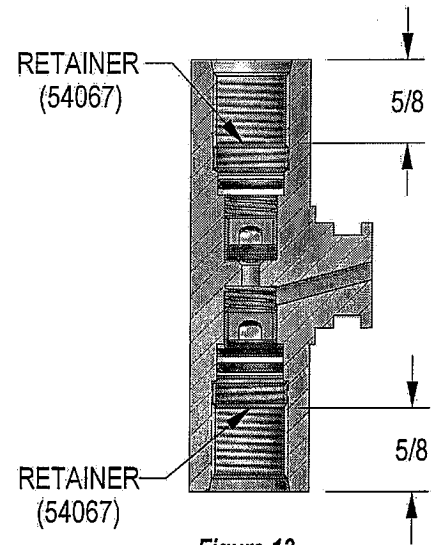

Figure 13
2. Place inlet port in upright position. Insert large spring, shank, ring, small spring, ball and seat into port until seated. It is important that the parts are in proper position before continuing. Slide one set of packing's (bronze, thin TFE back-up, o-ring, thick TFE back-up) in the order shown onto seat fitting. The thick TFE back-up will provide sufficient grip to retain the packing's during insertion. Then, using the assembly tool, screw the seat in until it is snug (approximately 5/8" below end face). Check that the ball is free to move by depressing it with a thin rod from the inlet end. * REFER TO FIGURE 13 FOR REFERENCE